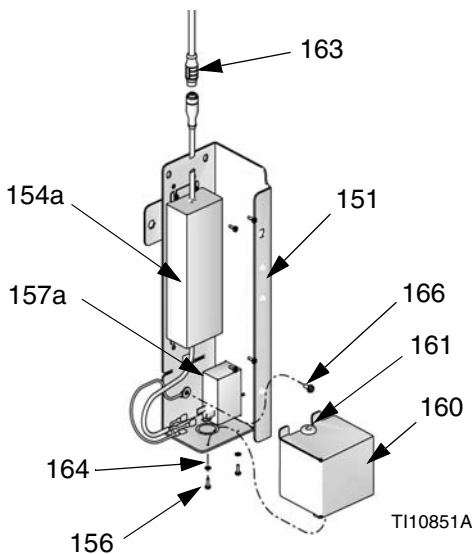

FIG. 38
2. Mount power entry module (157a) and 100-240 Vac power supply (154a) on mounting bracket (151).
3. Install power supply output cable to CAN cable (509). See FIG. 38.
- b. Connect brown wire to Line (L).
- c. Connect blue wire to Neutral (N).
5. Install grounding screw (166) through eyelet terminal of power supply ground (green) pigtail wire and fasten to power supply enclosure (151).
6. Install cover plate (160), screws (156), and washers (164).